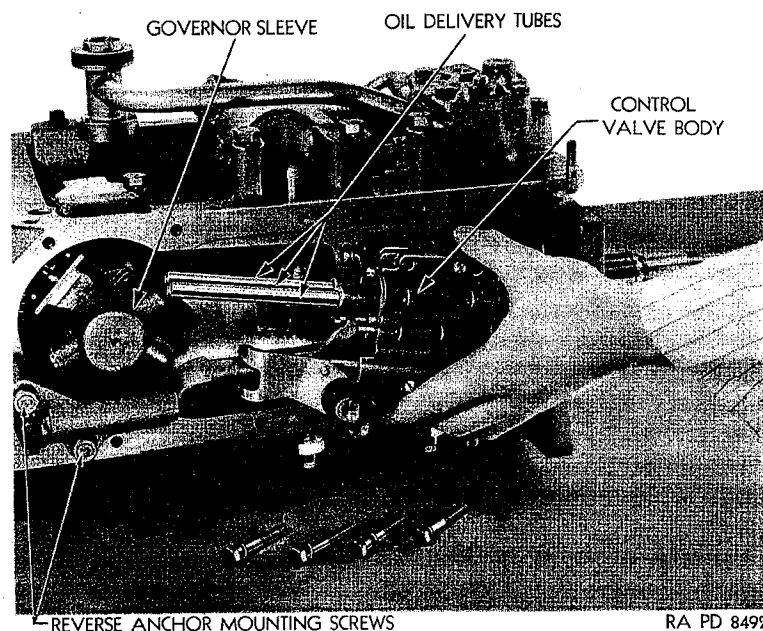

Figure 51—Transmission Control Valve Body Removal
(1) Remove floor pan underneath Hydra-Matic transmissions.
(2) Drain Hydra-Matic transmission oil pan as explained in Paragraph 30.
(3) Disconnect manual control rod from manual control lever and throttle valve rod from throttle valve lever.
(4) Loosen manual control and throttle valve lever clamping screws and remove levers.
(5) Remove transmission case side cover and gasket.
(6) Remove control valve body mounting screws and remove control body and governor oil delivery pipes by sliding control body forward along side of transmission case. (See Fig. 51.)
(7) Remove governor oil delivery pipes from control valve body, by simply sliding them out.
(1) Remove floor pan, throttle and manual levers and side cover as explained in Paragraph 90.
(2) Remove reverse anchor bracket mounting screws using  $\frac{3}{8}$ " wrench and remove reverse anchor bracket. (Fig. 51.)
(3) Remove reverse anchor pawl and retracting spring.